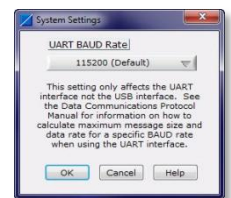

Figure 1: Baud Rate
- Select Timestamp in the Message drop-down, as shown in figure 1.